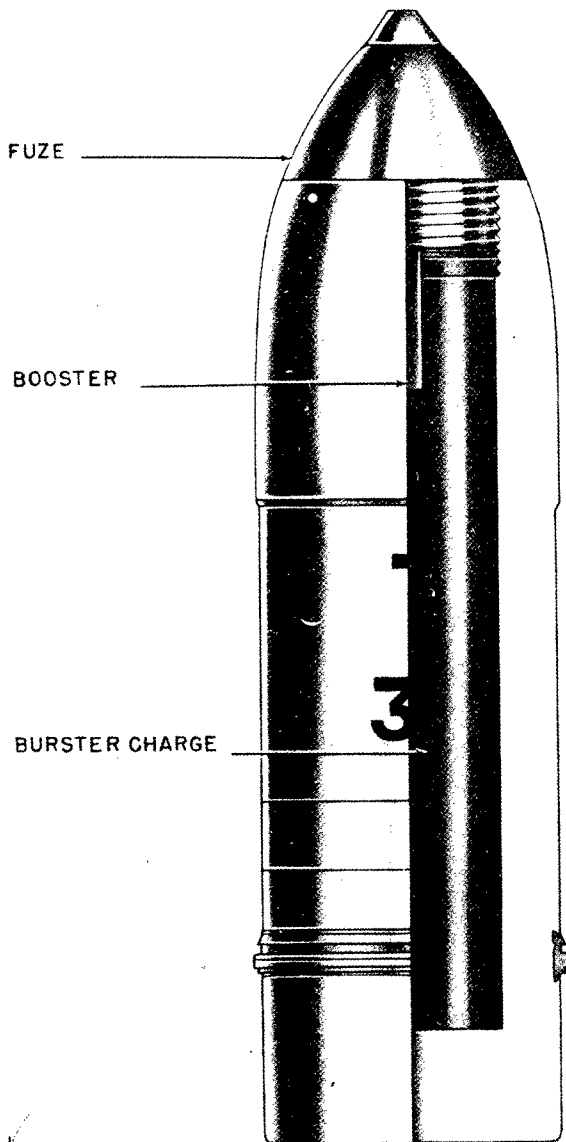

Figure 385—H. E. Shell for 75-mm Gun, 7.5-cm Sprgr. 2432 (h)
**GERMAN NOMENCLATURE:** 7.5-cm. Sprgr. 2432 (h). (See fig. 385.)